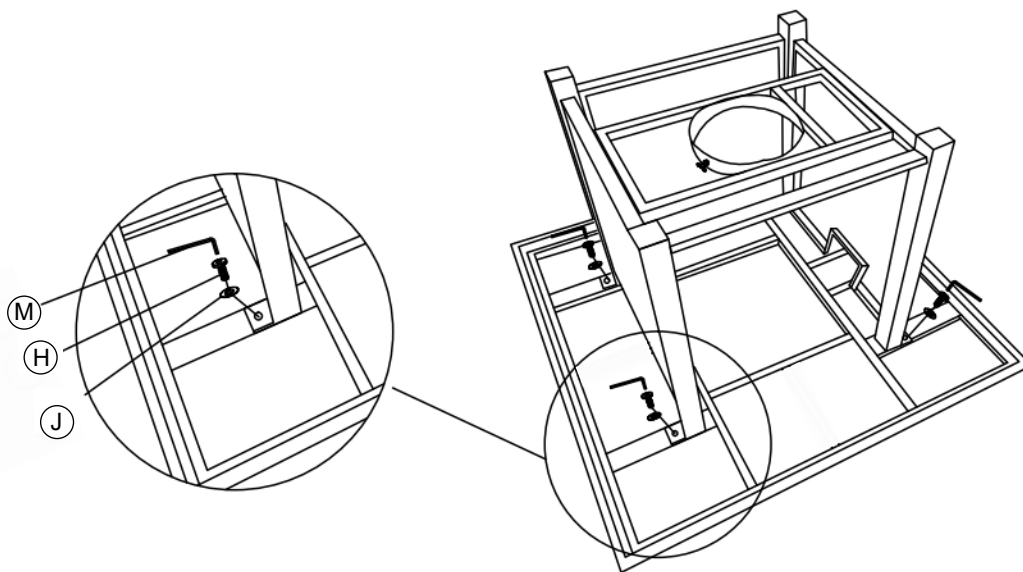

Figure 3
4. Turn over the assembled frame, attach to the top (B) with 4 bolts M6*20mm (H) and 4 flat washer (J) by using the allen wrench (M), and keep the ignition panel directly facing the door (F), (see figure3).